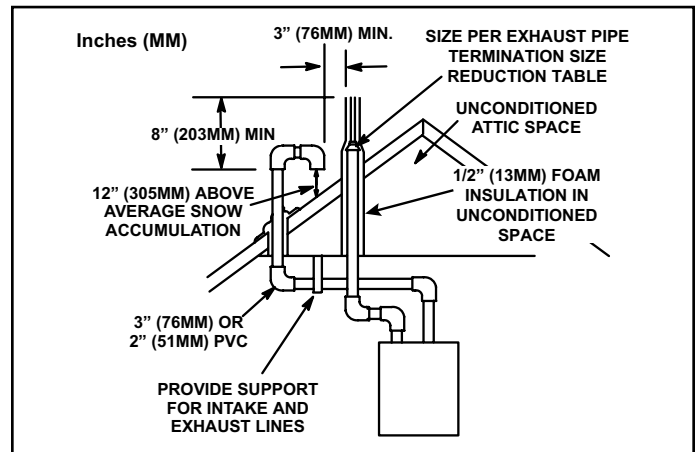

Figure 35. Direct Vent Roof Termination Kit (15F75 or 44J41)
Position termination according to location given in Figure 35 and Figure 42. In addition, position termination so it is free from any obstructions and 12" above the average snow accumulation.
Intake and exhaust pipes may be routed either horizontally through an outside wall or vertically through the roof. In attic or closet installations, vertical termination through the roof is preferred. Figure 35 through Figure 42 show typical terminations.
3. On roof terminations, the intake piping should terminate straight down using two 90° elbows (See Figure 35).